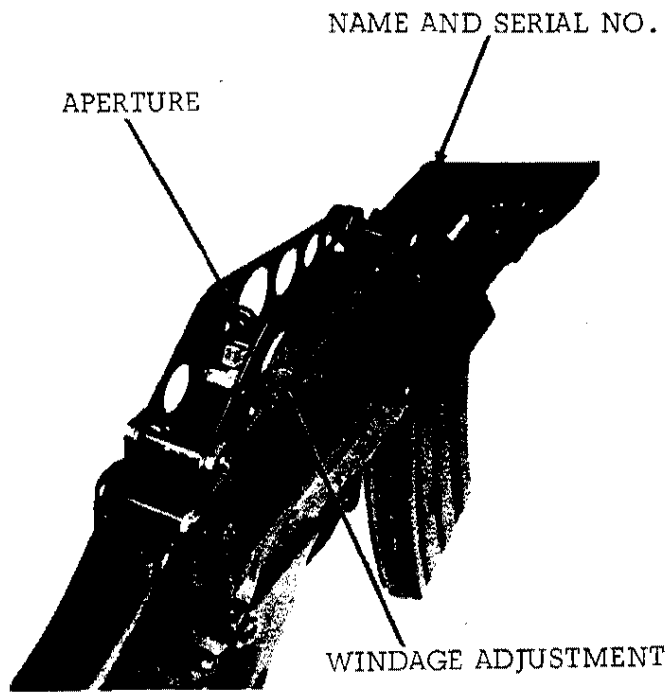

FIGURE 6. REAR SIGHT
The name and serial number of the rifle are stamped on the top of the receiver in front of the rear sight (figure 6).
(1) The rear sight assembly (Figure 6) is located on top and to the rear of the receiver assembly and is held in place by two pins. The rear sight assembly provides short or long-range settings and windage adjustments. There are two apertures on an L-shaped sight. The short range aperture is used for short (0-300 meter) ranges. The long range aperture is used for long (300-500 meter) ranges. The apertures are marked and identified "300" and "500", respectively.
(2) The windage adjustment is located on the right side and to the rear of the rear sight assembly. Adjustments are made by inserting the point of a cartridge into the lower hole containing the plunger of the windage scale drum, and pushing in with the cartridge, rotating the drum in either direction. To move the point of impact of the bullet to the left, rotate the desired amount of increments in the direction of the arrow stamped "L" on the drum. Reverse the direction of rotation to move the impact of the bullet to the right. An index and scale are located at the base of the rear sight for correction reference.